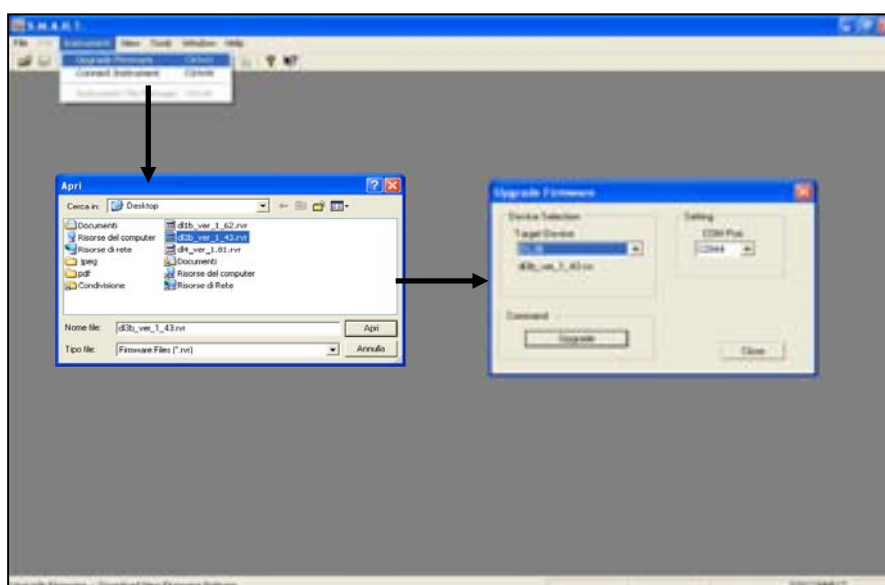

Figure 2.1
- b) Click on "Instrument" and "Up grade Firmware" in the instrument bar, (Figure 2.1) (**Also see paragraph 2.4 WARNINGS**)